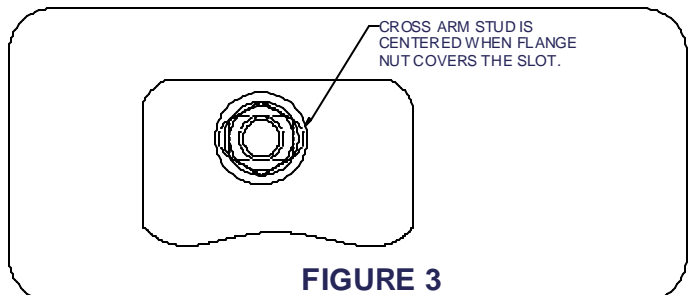

FIGURE 3
- 6) Center the rear cross arm studs in the side plate slots as shown in **Figure 3**. Use a 15/16" wrench to tighten the 5/8" flange nuts, on rear cross arm, to the side plates. **(Note: Do not tighten front cross arm until center section installation is complete.)**